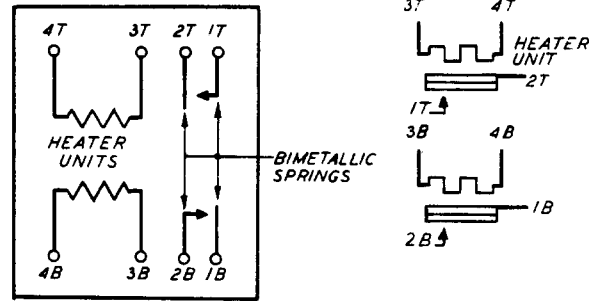

Fig. 47 - Winding and Spring Terminal Arrangement as Viewed From the Rear (terminal side) — 235-Type Relays
2.54 Facing the front of the relay the contact springs are numbered consecutively from left to right. Facing the rear the contact and heater unit terminals are numbered from right to left as shown in Fig. 47. The terminals are designated by a number followed by T or B de-